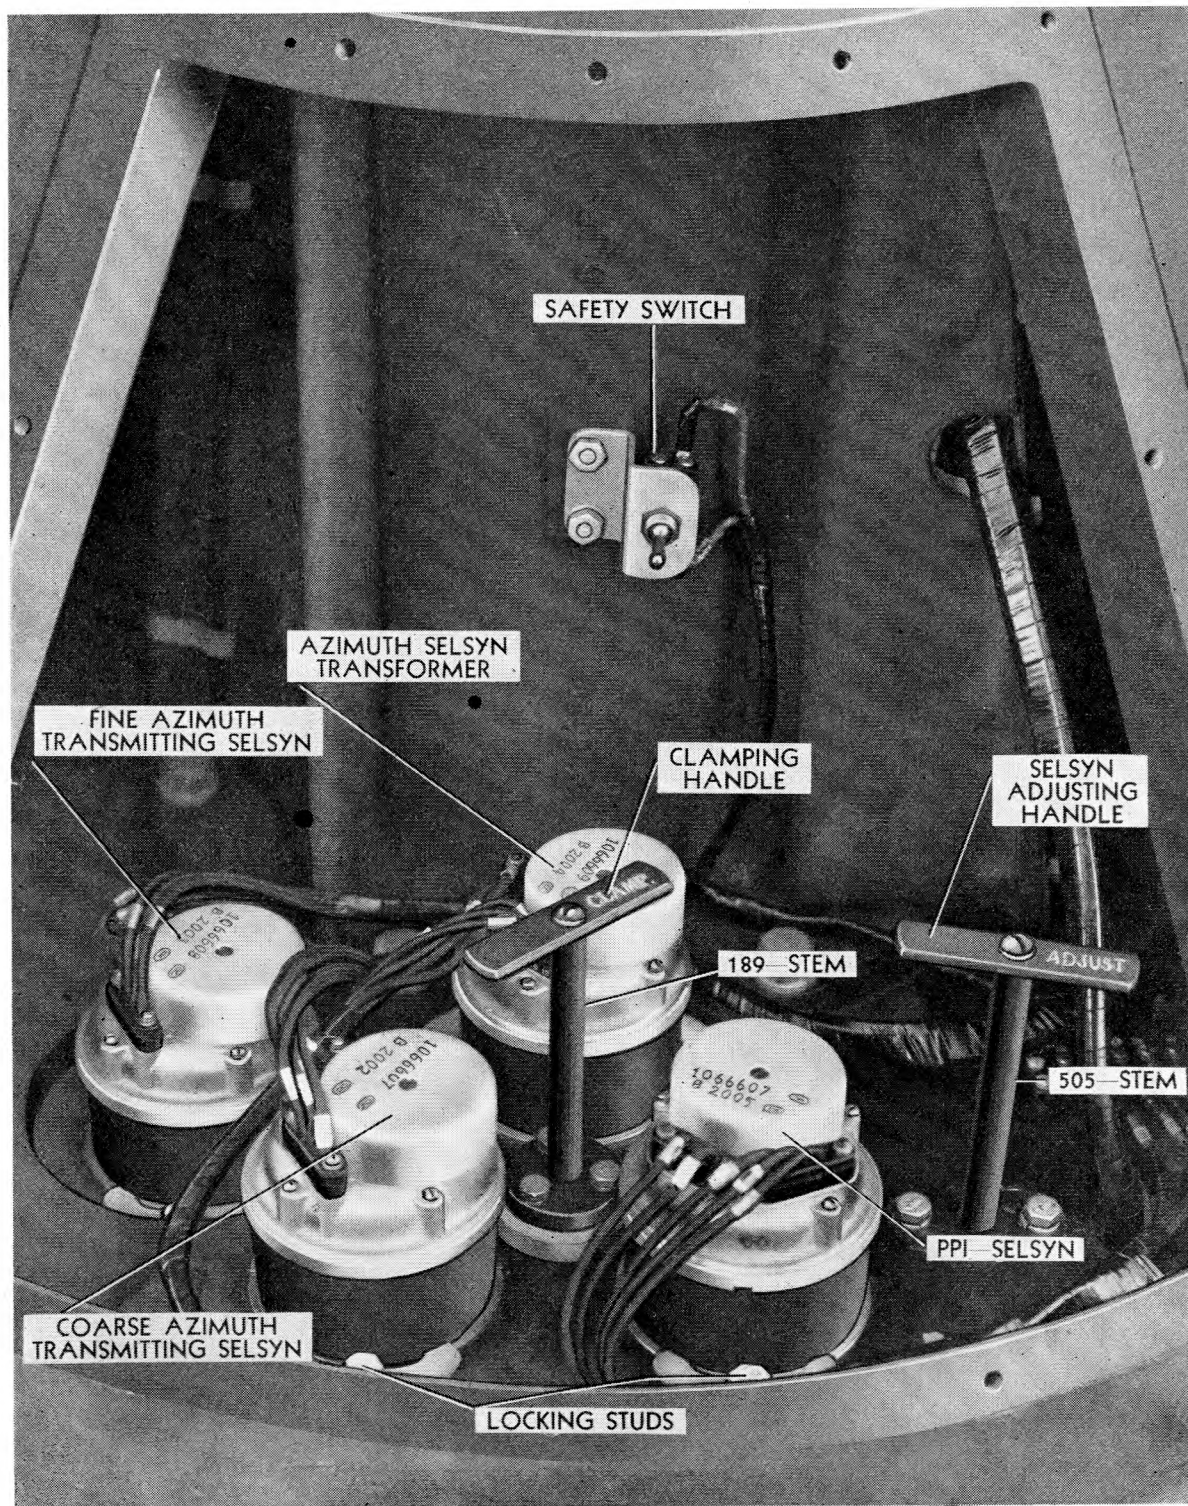

Fig. 22—Azimuth selsyn compartment
81. (a) Remove the azimuth selsyn cover plate on the pedestal. Slacken the azimuth orientation clamping handle (Fig. 22) by turning it anti-clockwise. Push down the selsyn adjusting handle and rotate it until the readings of the azimuth dials of the computer differ by exactly 180 degrees from the azimuth mechanical dials of the tracker. Tighten the clamping handle in place. Check that the computer azimuth indication has not changed.